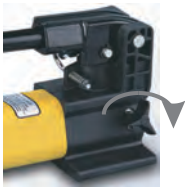

Figure 4.3
1.Close release valve by turning clockwise ,as shown in Figure 4.3.